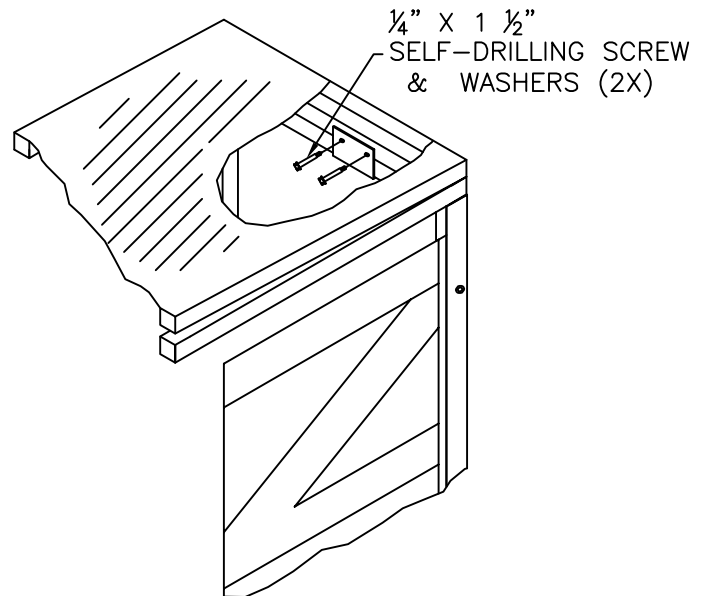

FIG. 14
c. Attach Head Frame to Vertical Frames (Figure 14**).**